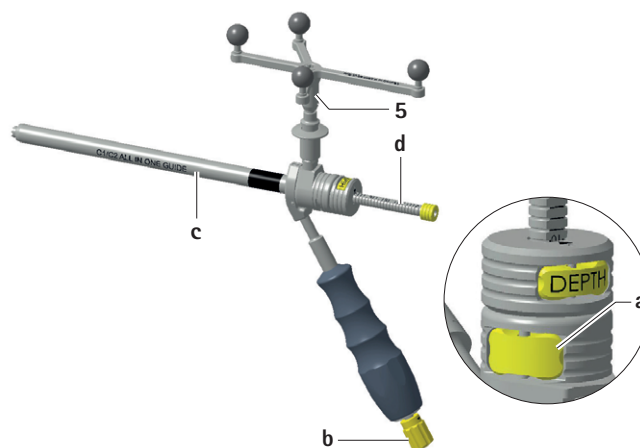

Fig. 14
- ▶ Insert the inner drill guide d (SZ134R) into the all-in one guide c. The inner drill guide locks automatically, see Fig. 14.
- ▶ After calibration and verification of the all-in-one guide, remove the inner drill guide. Push the golden button **a**, as shown on the right side of the image (see Fig. 14) to release the locking and retract the inner drill guide.